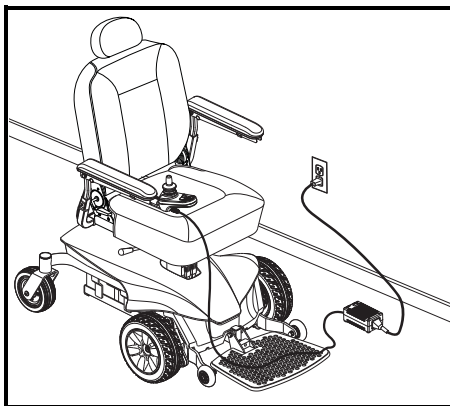

Figure 20. Battery Charging
1. Position the front of your power chair next to a standard electrical outlet. See figure 20.
3. Plug the off-board charger into the off-board charger/programming socket on the controller. See figure 20.